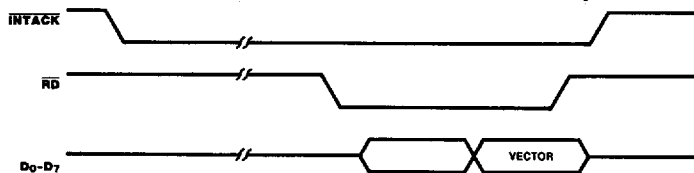

Figure 14. Interrupt Acknowledge Cycle Timing
**Interrupt Acknowledge Cycle Timing.** Figure 14 illustrates Interrupt Acknowledge cycle timing. Between the time  $\overline{INTACK}$  goes Low and the falling edge of  $\overline{RD}$ , the internal and external IEI/IEO daisy chains settle. If there is an interrupt pending in the SCC and IEI is High